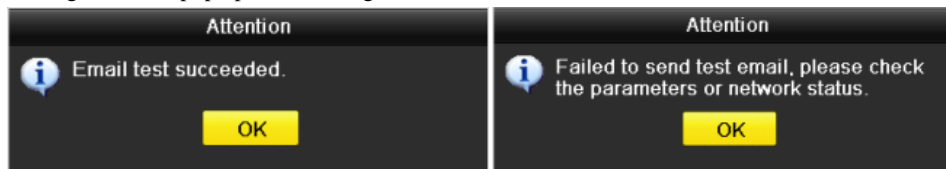

Figure 9. 22 Email Testing Attention
7. You can click **Test** to test whether your Email settings work. The corresponding Attention message box will pop up. Refer to Figure 9. 22.